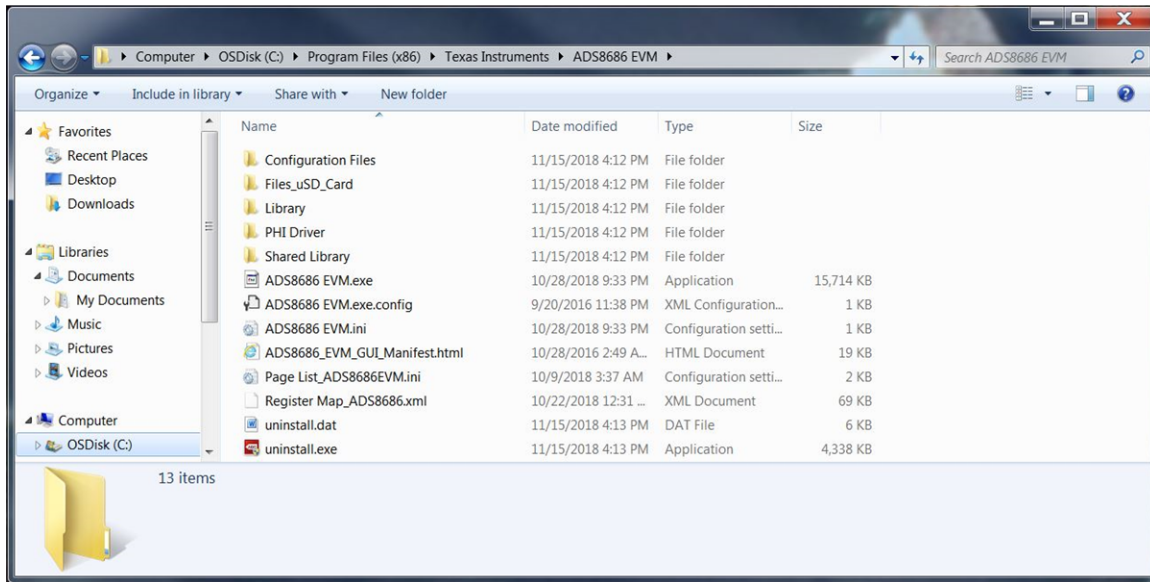

Figure 11. Launch the ADS8686SEVM GUI Software
- As shown in Figure 11, double click the *ADS8686EVM.exe* file to launch the EVM GUI.